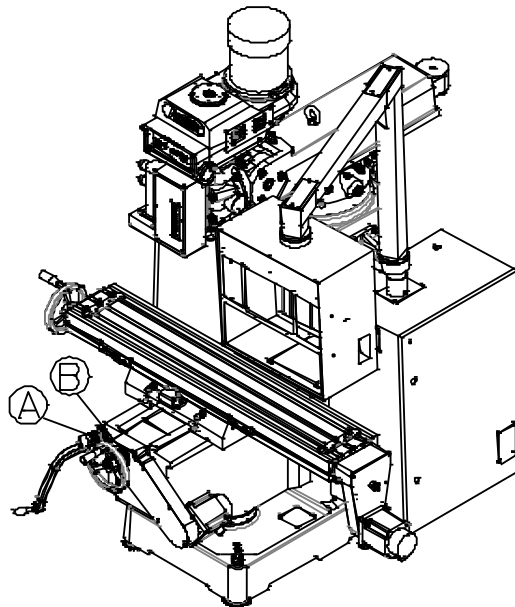

Fig. 6-6
6.2.1 Setting of zeroing the dial (Fig. 6-6)